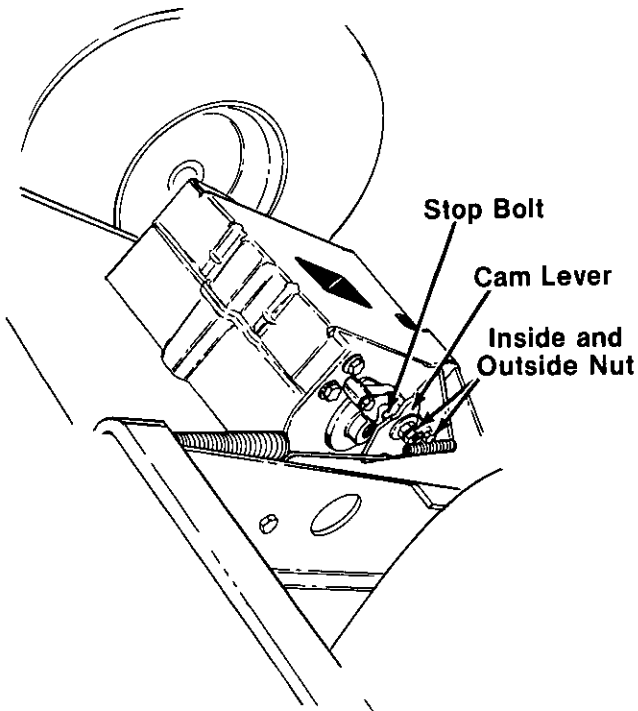

FIGURE 14.
- Loosen the inside nut until the cam lever can be pushed forward so that there is a 1/8" to 3/16" space between the cam lever and stop bolt. See figure 14.
- Tighten the outside nut against the inside nut, using two 1/2" wrenches. See figure 14.